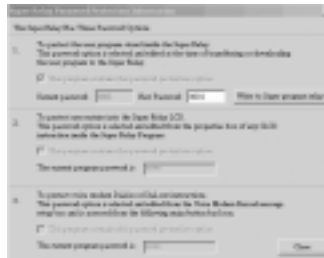

Fig. 4.19 Modify Password
a. Click button “” with left button of mouse, dialog box shown as Fig. 4.19 appears: